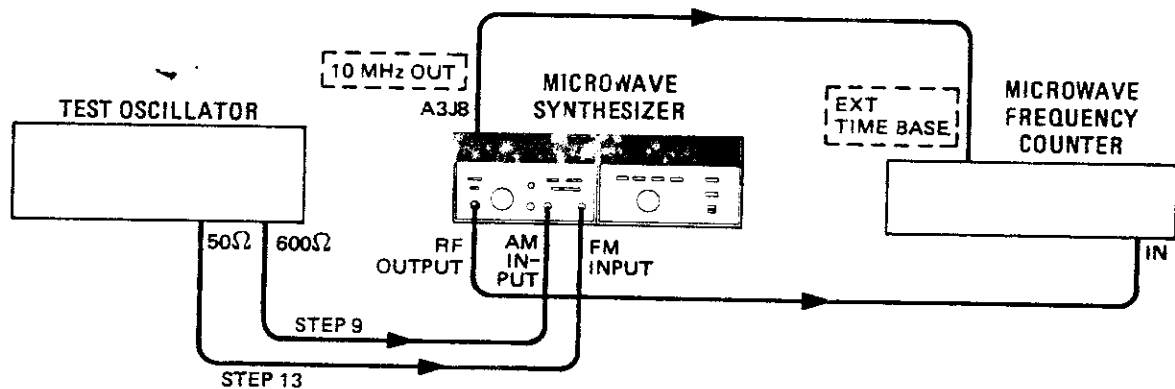

Figure 3-3. Operator's Frequency and Modulation Checks Test Setup
3. Press one at a time, the four FREQUENCY RESOLUTION keys **13**; the Frequency Resolution Light Bars **8** should light one at a time and remain lit. Rotate the TUNING control **14** clockwise and then counter clockwise and note that the digits displayed in the FREQUENCY display **8** increase and then decrease in order as the TUNING control **14** is turned. Perform this step as each of the four FREQUENCY RESOLUTION keys **13** are pressed. The first key on the left produces resolution in 100 MHz steps, the second key 1 MHz steps, the third key 10 kHz steps, and the fourth key 1 kHz, 2 kHz, or 3 kHz steps, depending upon the frequency band. Pressing the fourth key first will cause all four of the Frequency Light Bars **8** to light. Pressing the HOLD **10** pushbutton causes the Light Bars **8** to extinguish and prevents the TUNING control **14** from changing the frequency displayed.
4. Connect a microwave frequency counter to the Synthesizer as shown in Figure 3-3.
9. Apply power to the test oscillator, set the frequency to 10 kHz and the output level to 0 Vrms. Connect the test setup as shown in Figure 3-3.